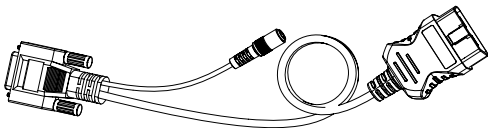

Figure 2.1.4
9. Diagnostic Cable with DB15 Female Connector & 16-pin OBD-II Connector. (See Figure 2.1.4)